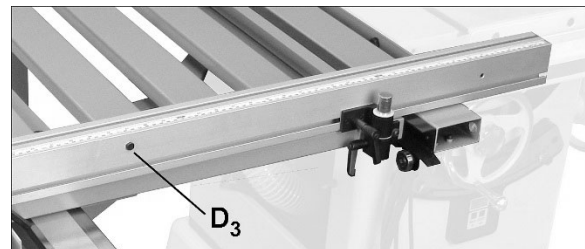
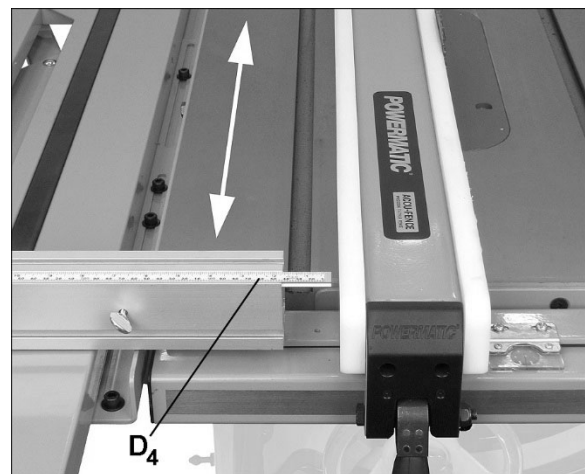

Figure 8-2
Figure 8-3
3. With fence mounted in front position, loosen screw (D₃, Figure 8-2) and slide fence scale (D₄, Figure 8-3) until it almost contacts rip fence/straight edge.